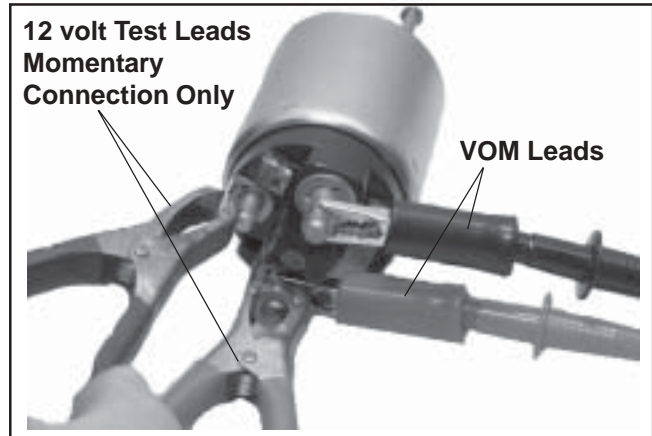

Figure 8-75. Testing Pull-In Coil/Solenoid Contact Continuity.
Use an ohmmeter set to the audible or Rx2K scale, and connect the two ohmmeter leads to the two large post terminals. Perform the preceding test (1) and check for continuity. See Figure 8-75. The ohmmeter should indicate continuity, if no continuity is indicated the solenoid should be replaced. Repeat test several times to confirm condition.